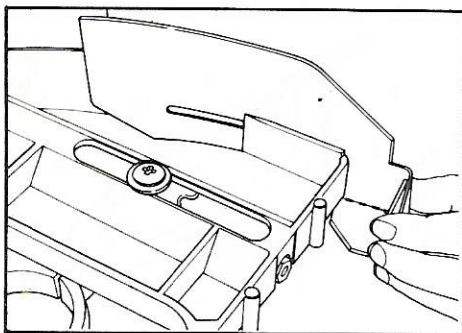

Figure 4. Sliding the deflector into the front side of the inner guard.
- c. Slide the folded deflector (3) into the front side of the inner guard (C). (See Figure 4.)